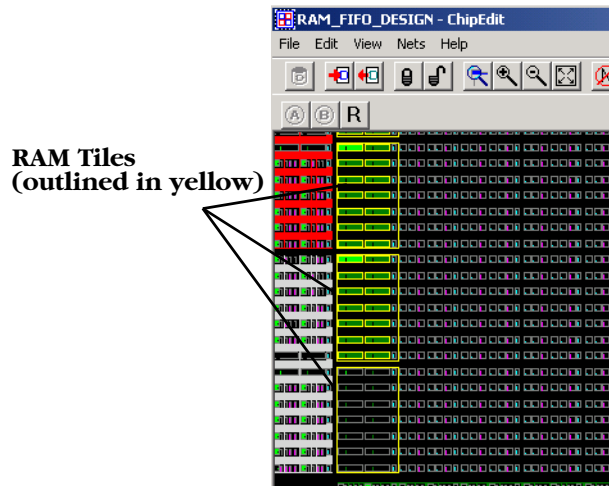

Figure 2-11. RAM Tiles
1. From the View menu, select **Static Objects** and click **RAM Tiles** or **Core Tiles**. Borders appear around the RAM Tiles or Core Tiles, as shown in Figure 2-11.